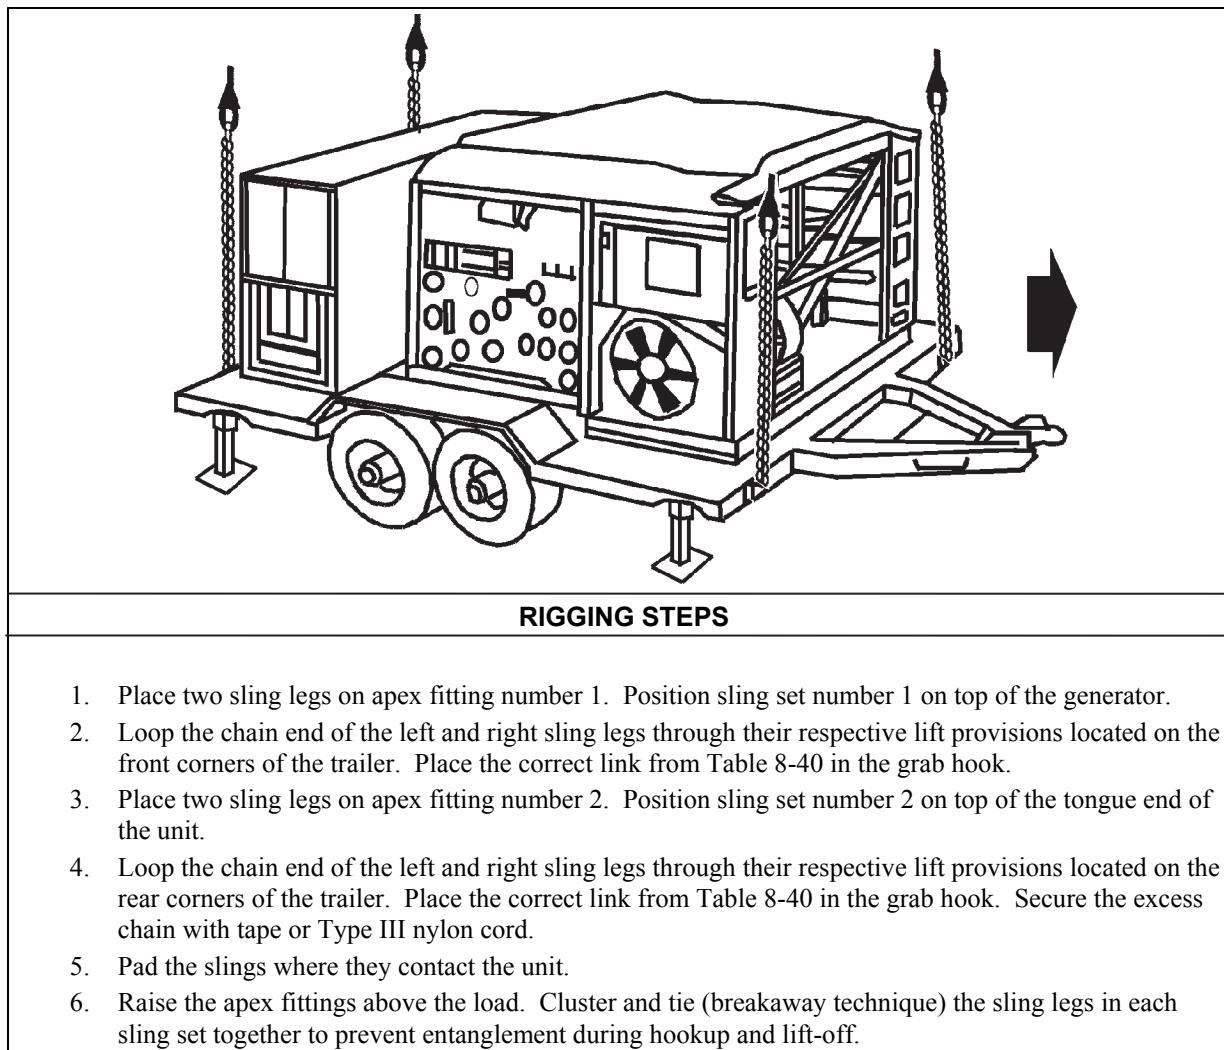

Figure 8-40. Water Purification Unit, Reverse Osmosis, Trailer Mounted
- **Rigging.** Rig the load according to the steps in Figure 8-40.